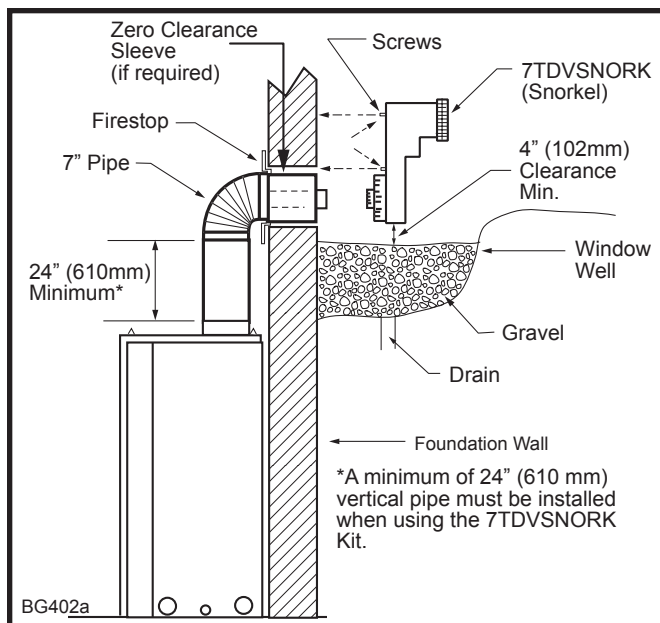

Fig. 38 Below grade installation.
2. Remove soil to a depth of approximately 16" (406mm) below base of snorkel. Install drain pipe. Install window well (not supplied). Refill hole with 12" (305 mm) of coarse gravel leaving a clearance of approximately 4" (102 mm) below snorkel. (Fig. 38)
7. Level the soil so as to maintain a 4" (102 mm) clearance below snorkel. (Fig. 38)